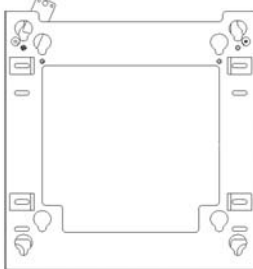
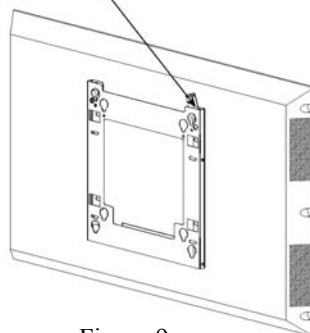

Figure 8
Figure 9
4. With the aid of another person, lift plasma display up to the mount, aligning mounting buttons with the teardrop slots dependent upon the model plasma (see Figure 8 & Figure 9).